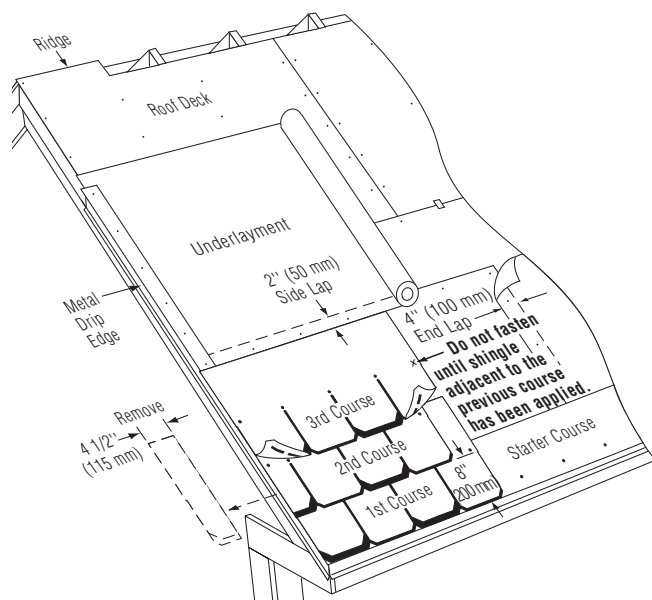

Figure 17-9: Applying the first 3 courses on a standard slope.
**1ST COURSE:** The first course starts with a full shingle at the lower left corner of the roof. Keep the tabs flush with the left and bottom edges of the starter course (Figure 17-9).
**2ND COURSE:** Cut  $4\frac{1}{2}$ " off the left end of a shingle. Apply the remaining larger piece over the first-course shingle, flush with the left edge and leaving 8" of the first course exposed. Snap chalk lines horizontally and vertically, as necessary (Figure 17-9). Be sure to check for proper alignment.